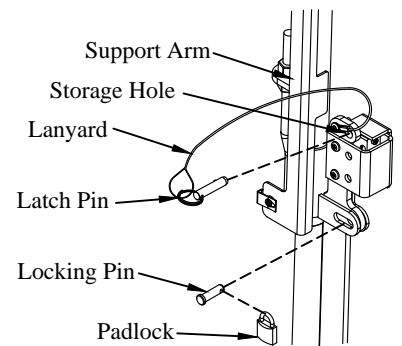

Figure 27: Platform lock.
11. **Insert** the latch pin into the storage hole (Figure 27).
12. **Insert** the locking pin through the hole in the passenger side support arm (Figure 27).
13. **Lock** the padlock through the hole in the locking pin (Figure 27).